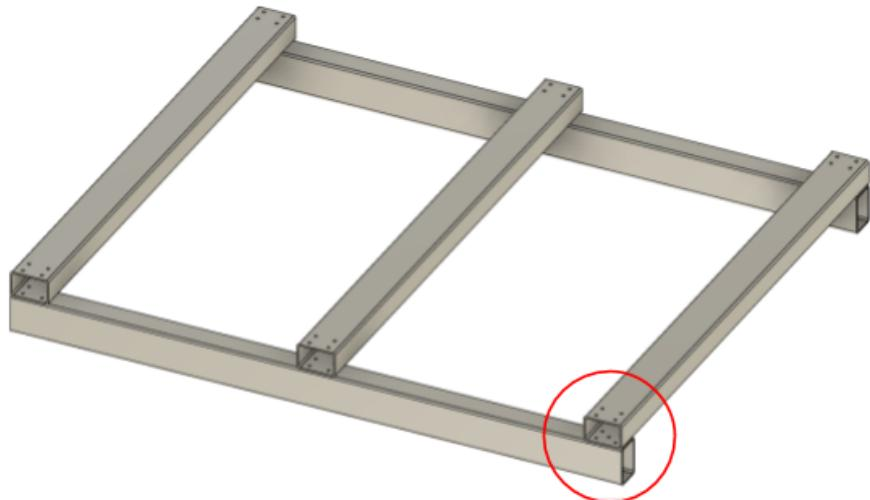

Figure 3.2
- A wire can be passed through the spare hole between the 4 bolts circled in Figure 3.2 and Figure 3.3
2. Place the prepared X-Axis frame pieces on top of the Y-Axis frame pieces so that the holes align as shown in Figure 3.2. Ensure the X-Axis frame beam which the extra hole aligns with the Y-Axis frame beam, as circled in red.